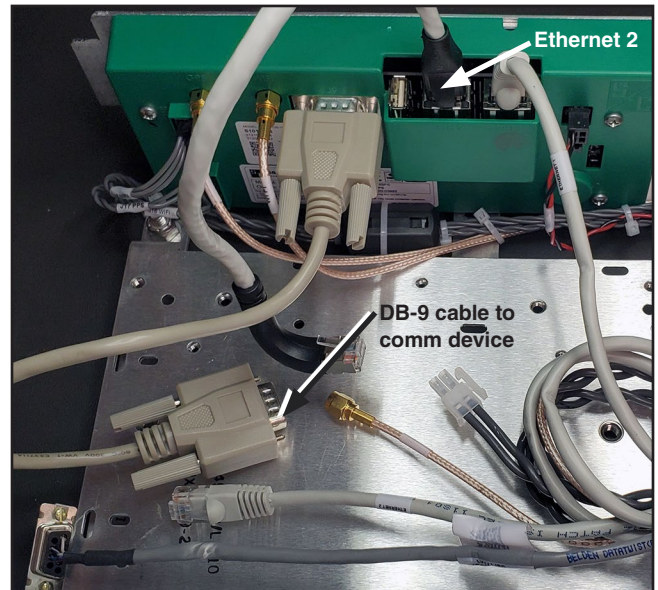

Figure 19. The Ethernet patch cord plugged into Ethernet 2.
- STEP 3.** Locate the Ethernet patch cord provided with the R3 Communication Module and plug one end into Ethernet 2 on the Wi-Fi/GPS module and the other into the Ethernet port on the communication device. See Figure 19.
- STEP 4.** Install the DB-9 cable to the field communication device so Wi-Fi can communicate with that device. See S&C Instruction Sheet 766-528 with module firmware version 3.0.00512 or Instruction Sheet 766-524 for other firmware versions. See Figure 19.